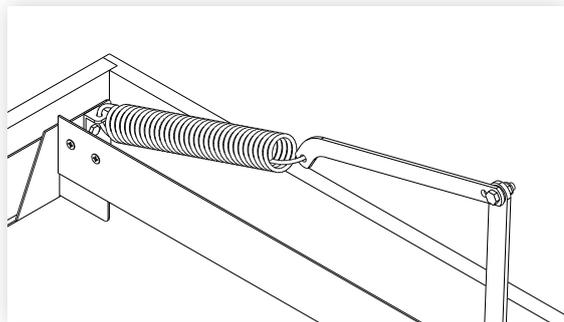

figure 5
5. Insert one end of a spring to the con rod and the other end to the lug on the main hinge. Repeat for both sides. Close the lid (figure 5).